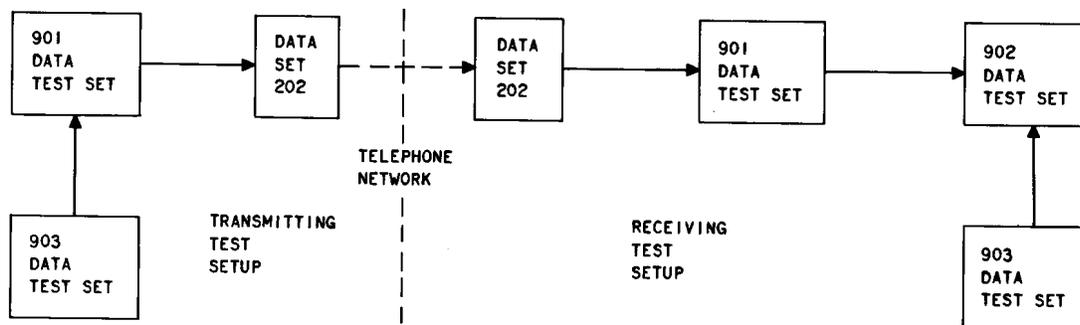

Fig. 4—Dynamic Test, Block Diagram
3.19 Figure 4 is a block diagram showing the equipment setup at the two terminals for testing one direction of transmission. The test equipment is set up as shown in each location for one direction of the test and then reversed for the other direction. One terminal can be a data test center.